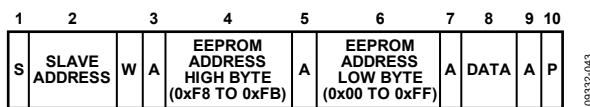

Figure 43. Single Byte Write to the EEPROM
- To write a single byte of data to the EEPROM. In this case, the command is the high byte of EEPROM Address 0xFB to EEPROM Address 0xFF. The first data byte is the low byte of the EEPROM address, and the second data byte is the actual data, as shown in Figure 43.